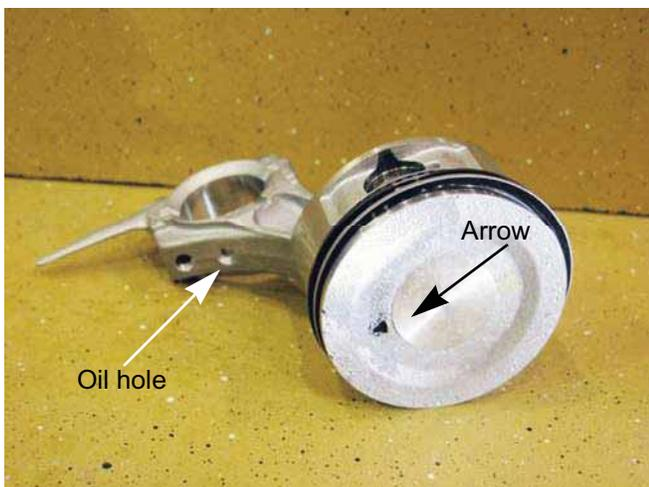

Figure 10.19
**NOTE:** If the piston and connecting rod were separated, Reconnect them so that the arrow on the piston head points to the oil hole in the connecting rod. See Figure 10.19.